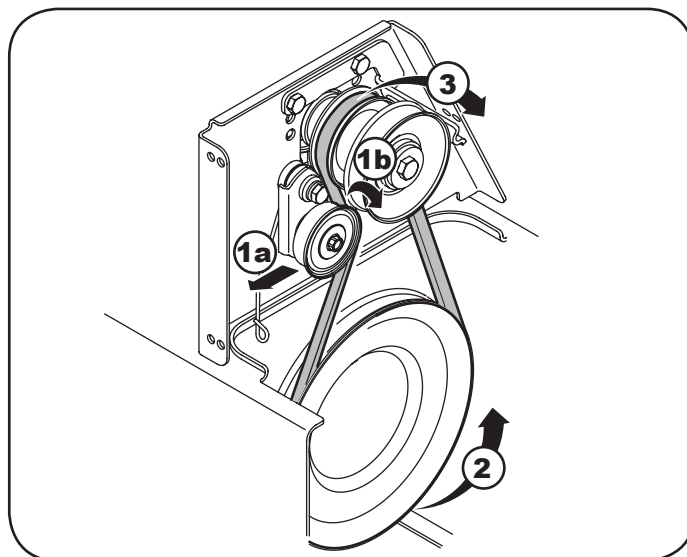

Figure 30
- Pull the idler pulley away from the backside of the drive belt to relieve the tension and slide the drive belt off the idler pulley. See Figure 30.